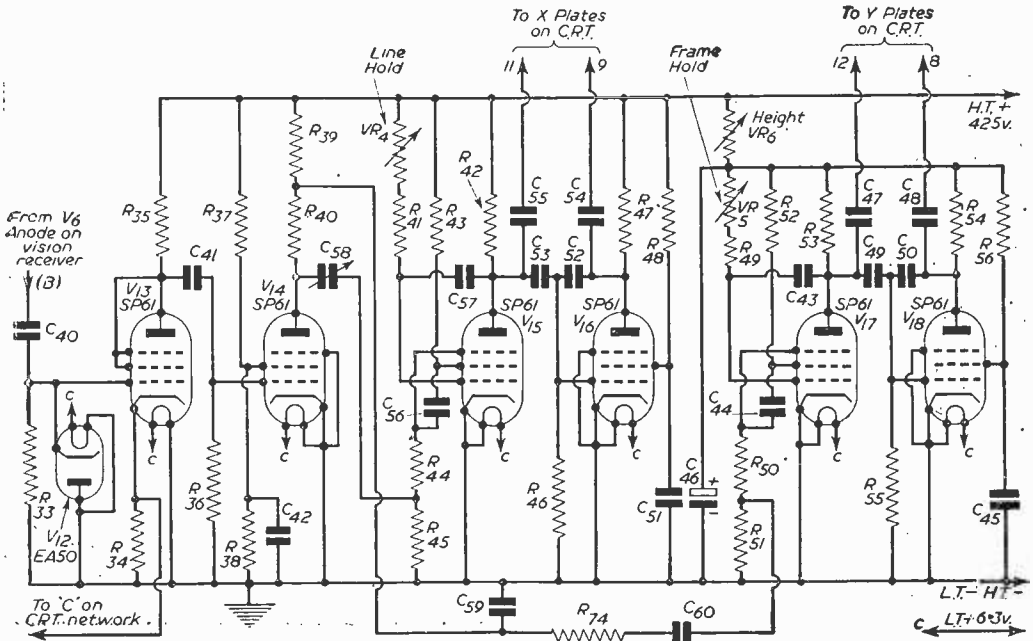

Fig. 6.—Theoretical circuit of the time base.
**T**HE time-base circuit is given in Fig. 6. It follows normal practice and has been proved to be very reliable in operation.